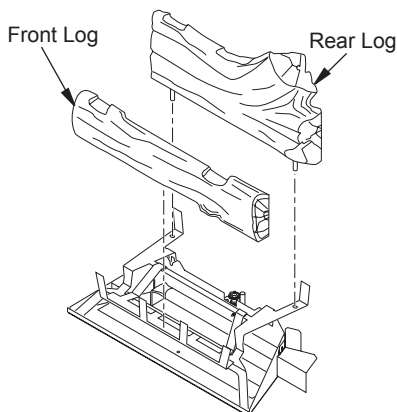

Figure 25 - Installing Front and Rear Logs
1. Place front log onto front of grate sliding log all the way forward against grate fingers (see Figure 25).
2. Insert pegs on bottom of rear log into holes in rear of grate (see Figure 25).